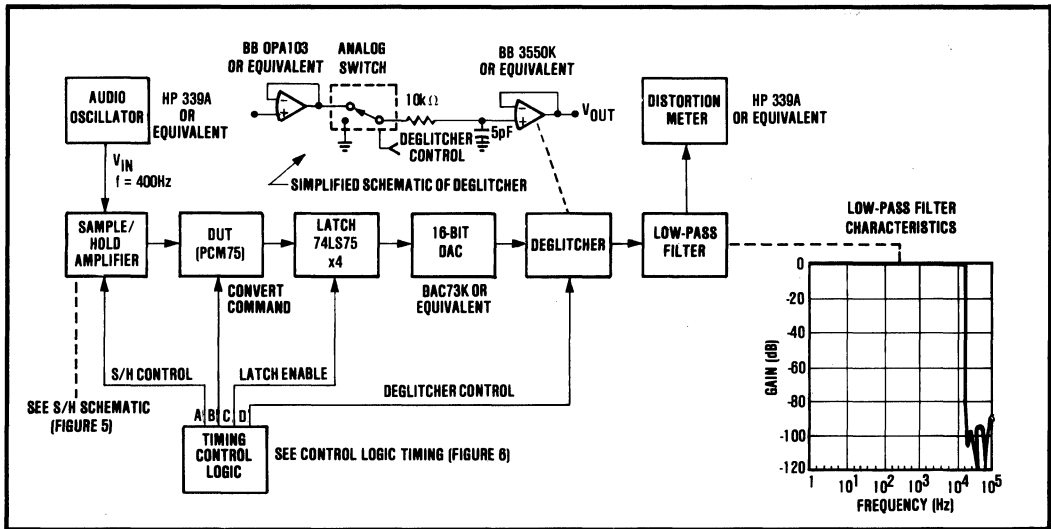

FIGURE 4. Block Diagram of Distortion Test Circuit.
1. The measurement of total harmonic distortion (THD) and Dynamic Range is highly dependent on the characteristics of the sample/hold amplifier, the digital-to-analog converter, the deglitcher, and the low-pass filter. To accurately measure THD and Dynamic Range, the accuracy of each device should be better than 16-bit accuracy. A block diagram showing the measurement technique Burr-Brown uses is shown in Figure 4.
The Total Harmonic Distortion (THD) is defined as the ratio of the square root of the sum of the squares of the value of the rms harmonics to the value of the rms fundamental and is expressed in percent or dB. A block diagram of the test circuit used to measure the THD of the PCM75 is shown in Figure 4 along with a timing diagram for the control logic. If we assume that the error due to the test circuit is negligible, then the rms value of